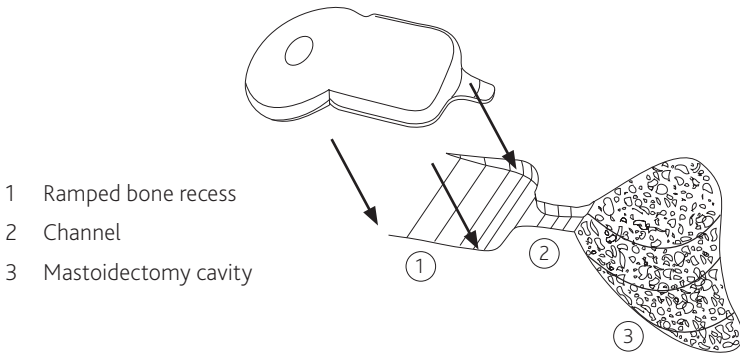

Figure 6: Ramped bone recess, electrode channel and mastoidectomy
5. Drill a channel to connect the bone recess and mastoid cavity, refer to *Figure 6*. The channel will help protect the electrode against trauma.